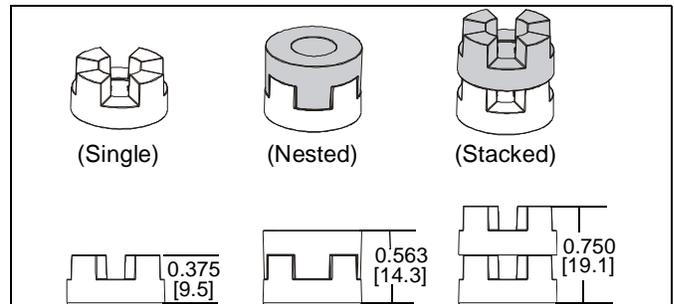

Figure 11
NOTE: The nesting spacers (M) may be used separately, or put two together in different configurations to create different size spacers. (See Figure 11)